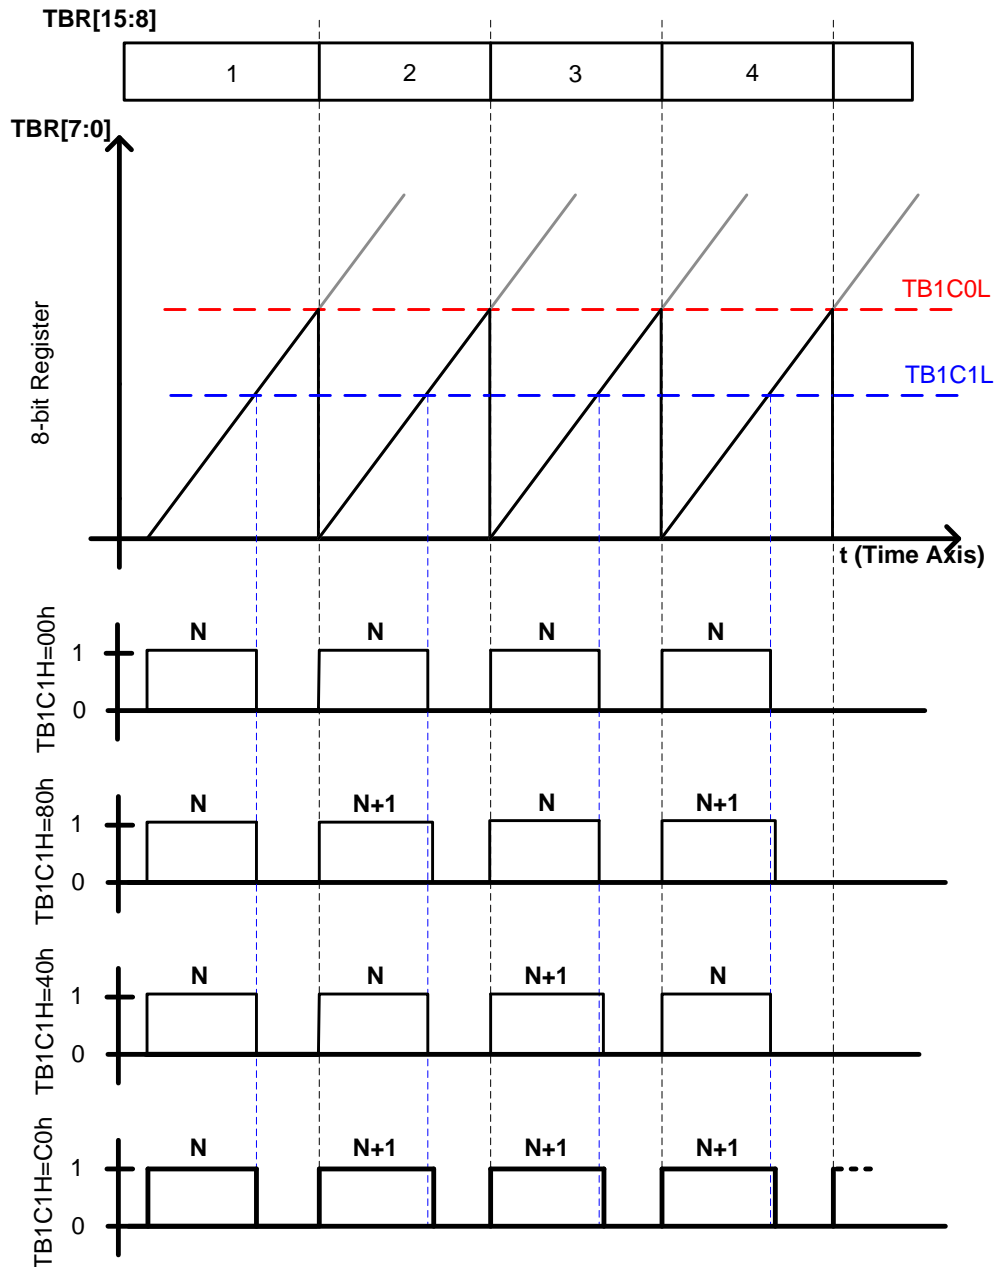

Figure 8-6 8+8-bit PWM Output Waveform Schematic Diagram
- ◆ Following Table 8 -2 and Figure 8-6 sections list 8+8-bit PWM waveform changing of TB1C1H[15:8] under different setting for user's reference.